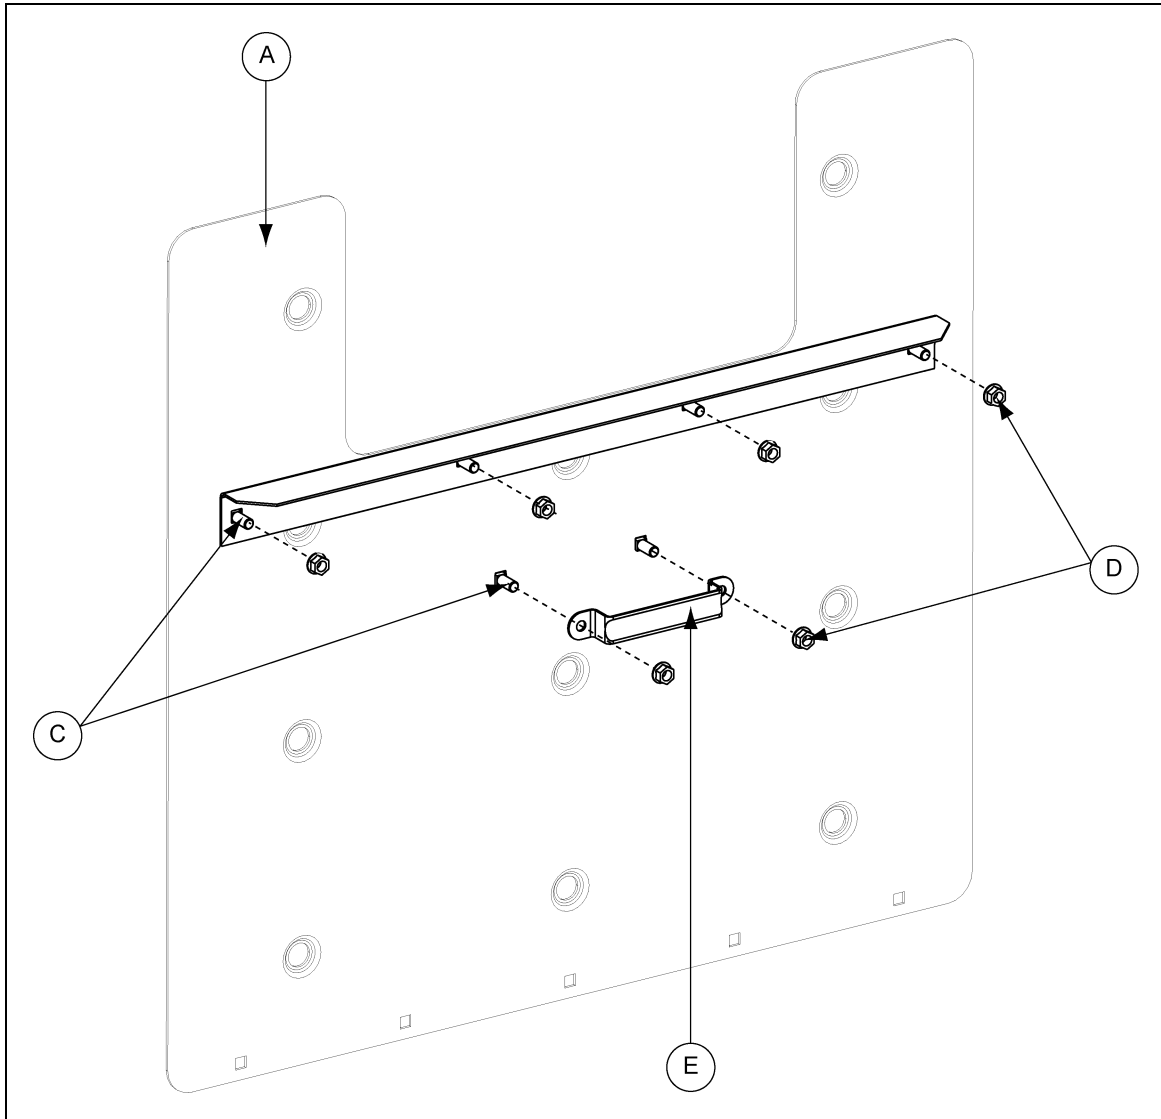

Figure 11B
2. Install hatch support (HP1624HS) to the bottom of the hatch door using 3/8" x 1" carriage bolts (S-3585) (C) and nuts (S-10028) (D). *(See Figure 11B.)*
3. Fasten peak cap handle (PR-331) (B) to the bottom of the hatch door using 3/8" x 1" carriage bolts (S-3585) (C) and nuts (S-10028) (D).